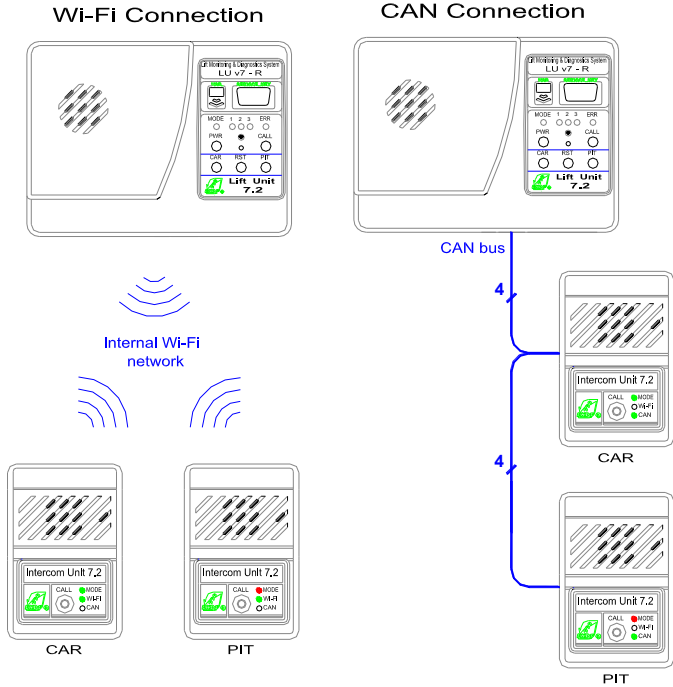

Fig 3.Internal network architecture
1. Possible internal network architecture are shown on Fig.3